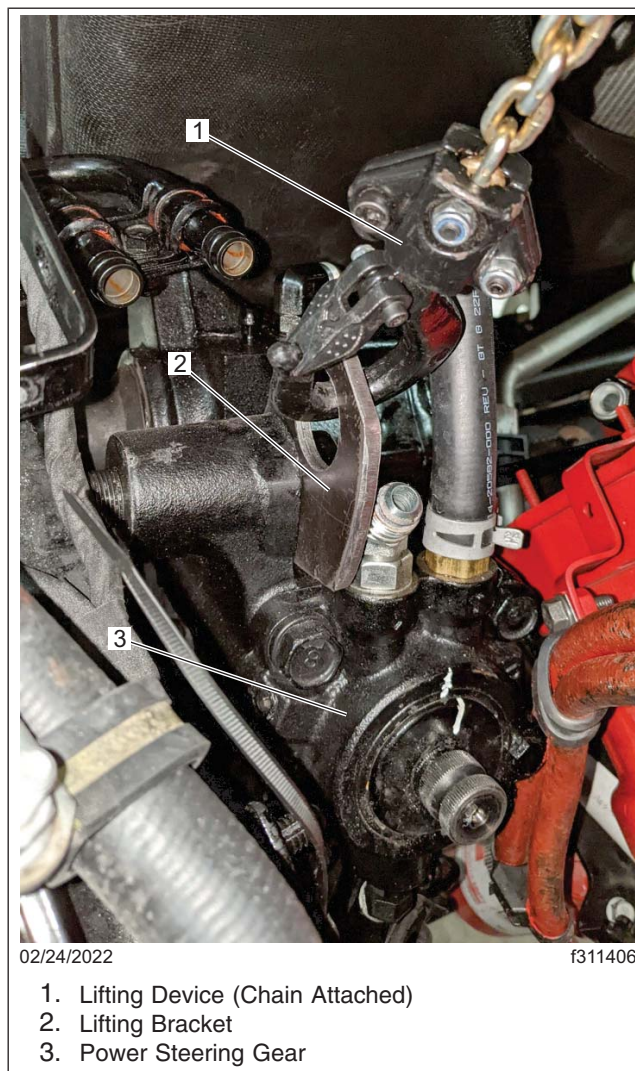

Fig. 1, Power Steering Gear Attached to the Lifting Device
14. Attach the lifting bracket to the steering gear. See Fig. 1.
15. Position a lifting device, then attach the chain of the lifting device to the lifting bracket. See Fig. 1.
37. Attach the lifting bracket to the steering gear. See Fig. 1.
38. Position a lifting device, then attach the chain of the lifting device to the lifting bracket. See Fig. 1.